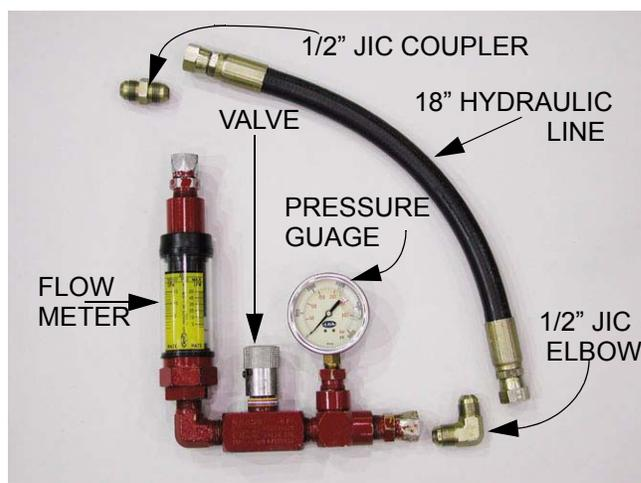

Figure 4.8
- 4.8. Install a 1/2" JIC double male coupler in one end of the 18" hydraulic line in the test kit. Install a 90 deg. 1/2" JIC double male elbow in the other end. See Figure 4.8.